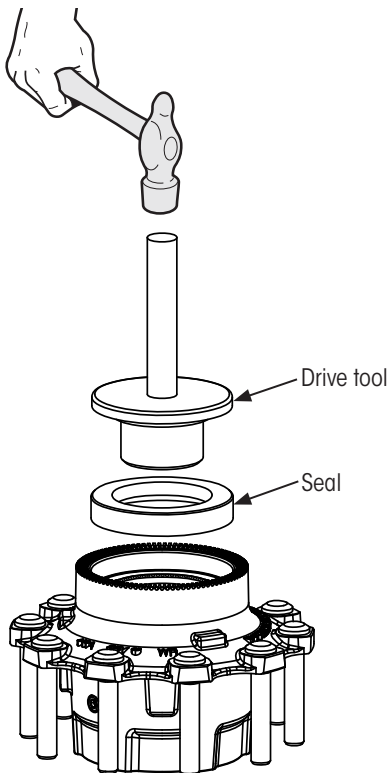

Figure 8: Hub-mounted seal installation
NOTE: A hub seal driver (Figure 8) is recommended and can be obtained from seal manufacturer.
8. **Place** seal onto the drive tool (Figure 8) for installation into the hub according to seal manufacturer's instructions.